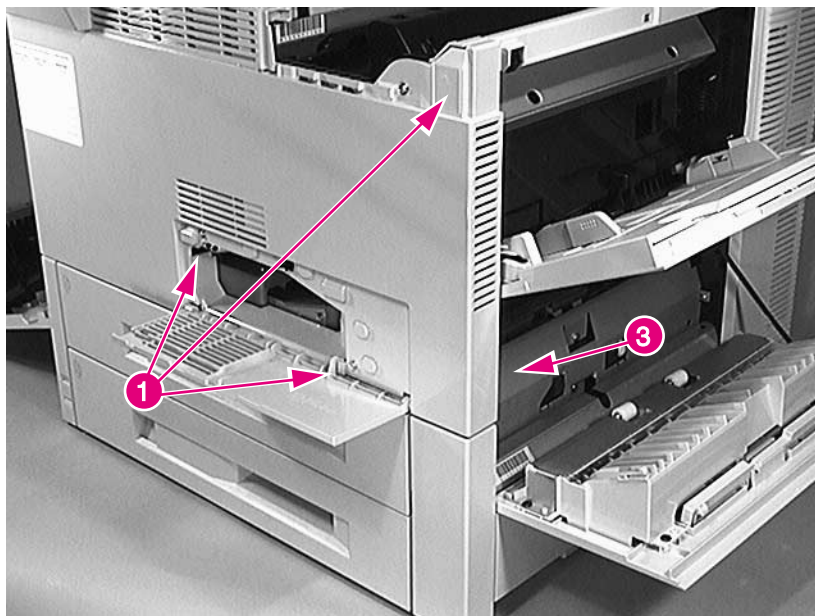

Figure 6-7 Front Cover (1 of 2)
- 2 Open the front access door, and remove 3 screws (figure 6-7, callout 1).
- 4 Carefully pull the bottom of the cover away from the chassis while moving it to the right to release the retaining tab (figure 6-7, callout 3).
- Front Cover (see figure 6-7 on page 270)